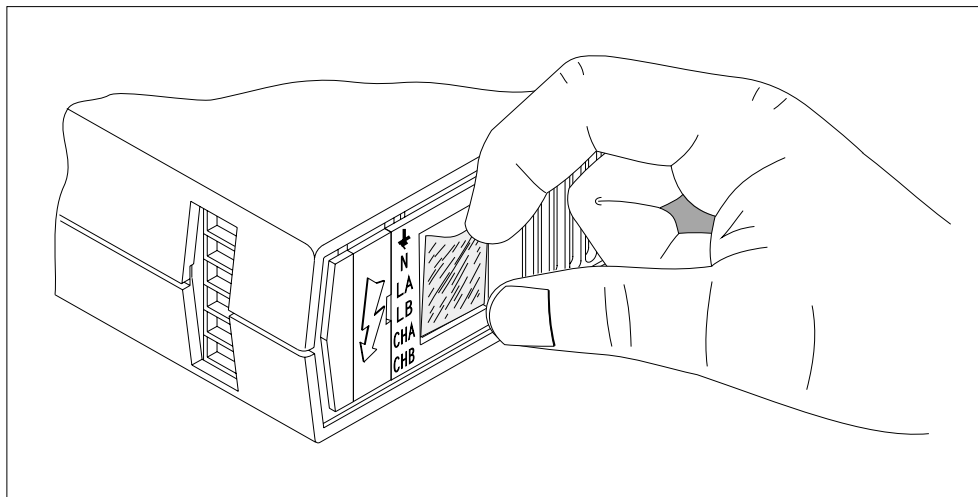

Fig.2-3: Removing the front panel label.
- Write the function or circuit details of both channels on the label in the recessed area of the front panel next to the terminal cover plate. If required, the label may be removed as shown in Fig.2-3.